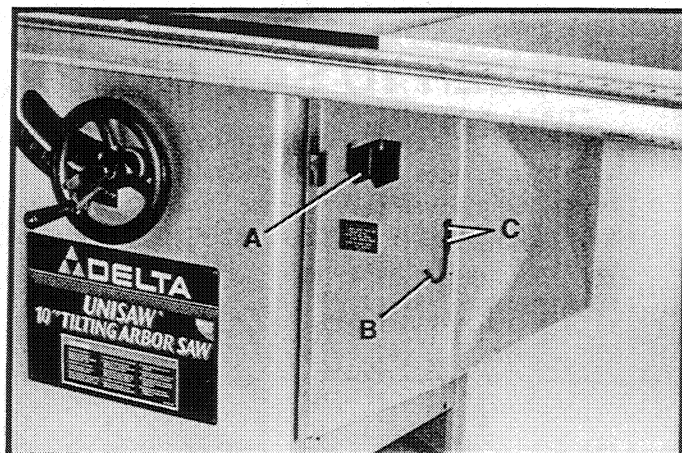

Fig. 55
1. Assemble the miter gage holder bracket (A) Fig. 55, and wrench holder bracket (B) to the four thru-holes on the front of the motor cover using the four 1/2" self-tapping screws supplied, two of which are shown at (C).